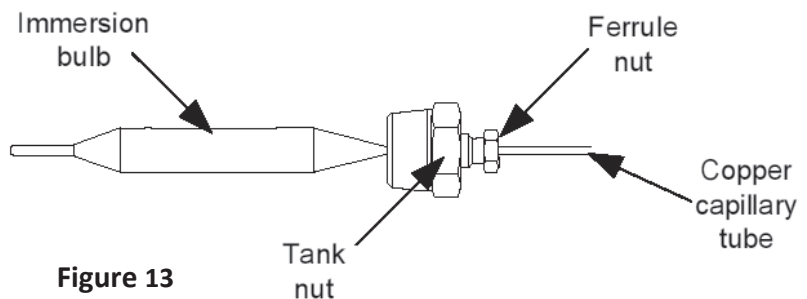

Figure 13
2. Loosen ferrule nut of immersion bulb (see Figure 13).
3. Position tank nut at end of immersion bulb as shown in Figure 13. Insert immersion bulb into tank and tighten tank nut.
4. Gently pull copper capillary tube to insure the immersion bulb is in a horizontal position as shown in Figure 13 and tighten ferrule nut.